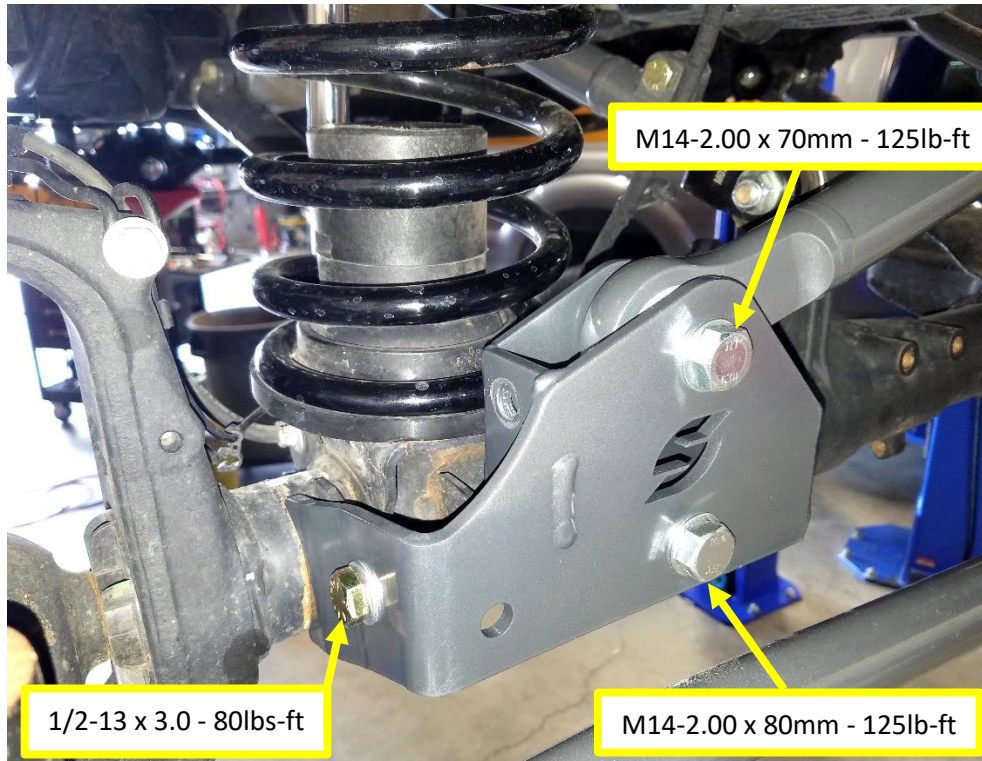

Figure 7. Track Bar Installed into Bracket
- Torque all the bolts in the bracket to specification. Torque both M14-2.00 bolts to 125lb-ft, and torque the 1/2"-13 bolt to 80lb-ft. Torque the U-bolt nuts to 30lb-ft. Do not over tighten the U-bolt nuts! See **Figure 7**.